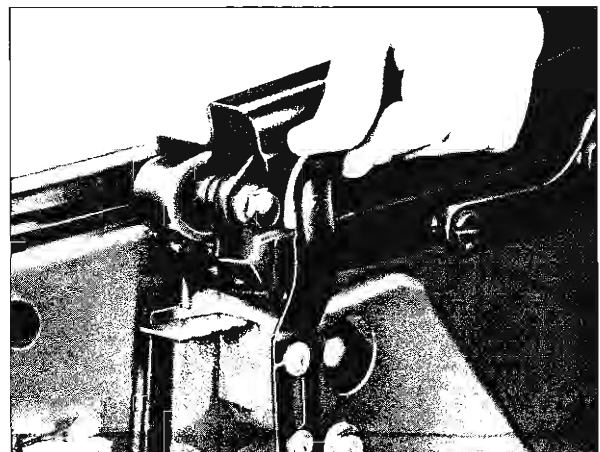

Fig. 21-16 Disengaging Top Assembly
- A. At each side of car, move upper end of catch clip inboard to disengage top assembly (Fig. 21-16).